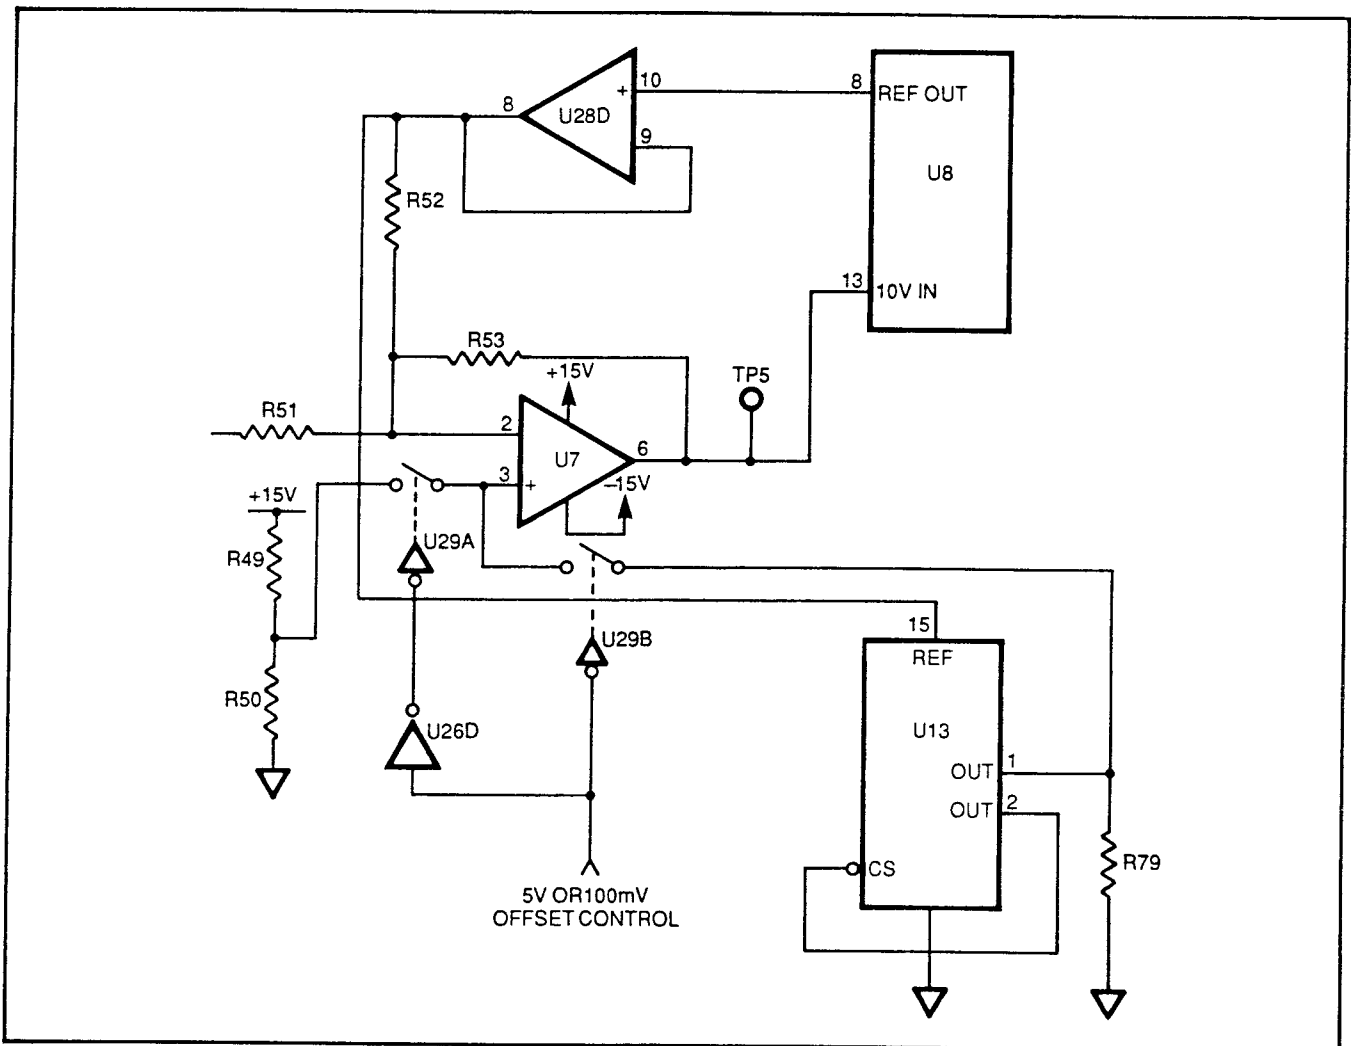

Figure 8-34. Level-Shifting/Inverting Stage
The U8 ADC has its own on-chip voltage reference. This reference is externally buffered by U28D (Figure 8-34) and used as a reference to the level-shifting/inverting stage, U7, to the U13 DAC.
1. It inverts the applied signal so that it is positive when input to the U8 ADC (Figure 8-34).